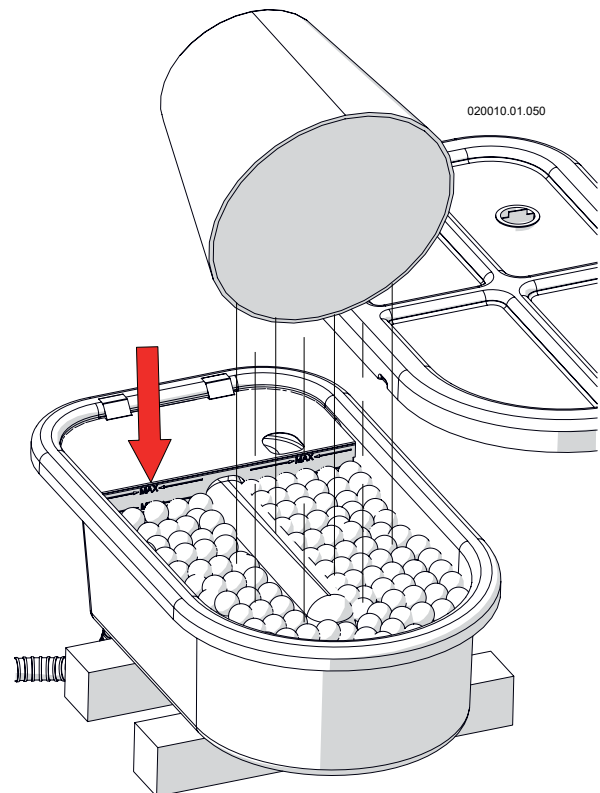

Figure 15-2 - Filling water in the condensate outlet siphon
- 1.- Once the neutralizer media is placed fill the box with water until the max level indicated in Figure 15-2, make attention to placing the box on two axes to keep it level horizontally;